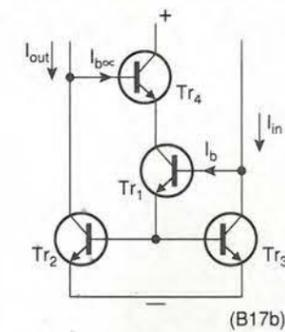
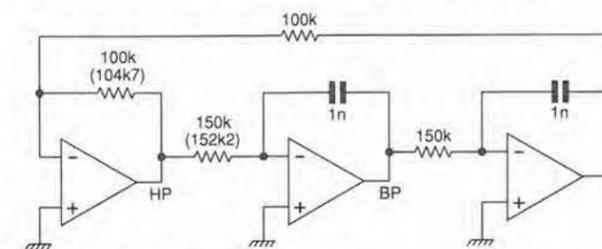

Fig. 2. Further base current added to output restores accuracy while retaining improved bandwidth.
Fig. 1. Simple low distortion sine wave oscillator
To regain accuracy, the circuit of Fig. 2
As an exercise in making a silk purse out of a sow's ear, that standard low-cost standby of FET input op-amps, the TL084 was selected. I started with the circuit of Fig. 1, which, apart from the frequency, is the same basic circuit as in reference 5. This circuit produces an output at approximately 1kHz, the peak to peak amplitude just reaching to the supply rails.
Output spectrum is shown in the upper trace of Fig. 2. This shows the measured at the output of the second integrator, deliberately plotted with rather a wide IF bandwidth. The
Fig. 2. Upper trace, output of the circuit of Fig. 1. Span 0-5kHz, 100Hz resolution (IF) bandwidth, video (post detection) filter off. Lower trace, as above, but with component values in brackets, resolution bandwidth 30Hz.
The spectrum was now as shown in Fig. 2, lower trace. For clarity, this has been recorded at a narrower IF bandwidth, and the slight increase in frequency is clearly visible, more so at the higher harmonics.
Following careful setting up, the output spectrum was as shown in Fig. 4. The third harmonic at the low-pass output is at -69dB, about as low as the diode-free circuit of Fig. 1. It is also lower – without the benefit of outphasing – than achieved by the circuit of reference 4 with diodes.